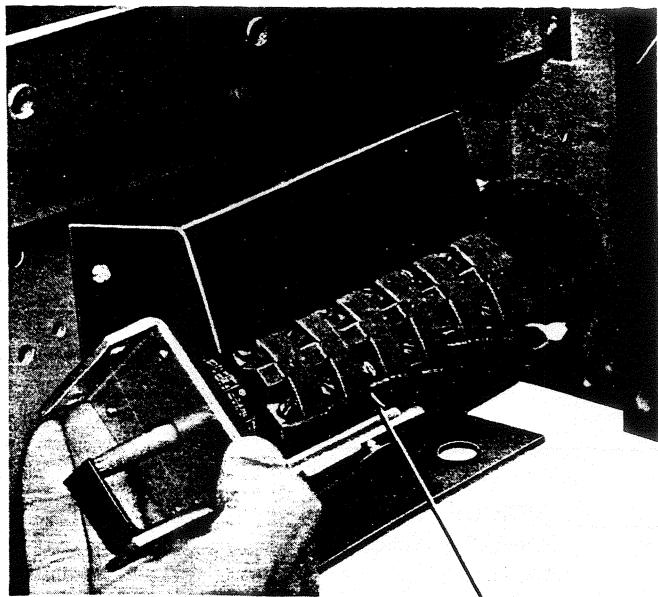

Figure 11
2. Position the prewired unit inside the barrier as indicated in Fig. 11, and line up the mounting holes.
5. Wires must be grouped and tied on each side of switch as shown in Fig. 11 to prevent barrier from being pushed up into the path of the retractable rail.